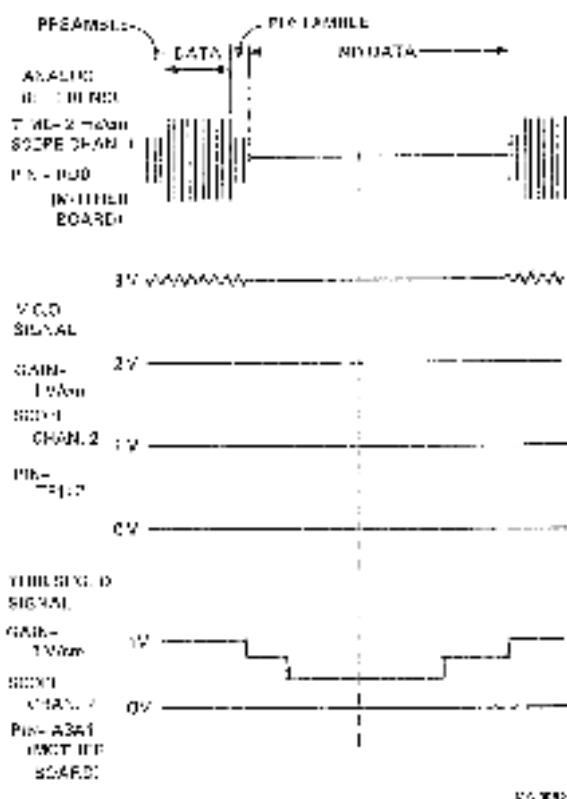

Figure 5-7 Threshold and VCO Adjustment.
1. Run test 54 and verify Pin A3A1 is $1\text{ V} \pm .1\text{ V}$ during the data portion of the analog signal (Figure 5-7).
1. Run test 54. Adjust the potentiometer on M8922 for minimal level shift (dc) between data and no data portions of the signal in Channel 2 (Figure 5-7).